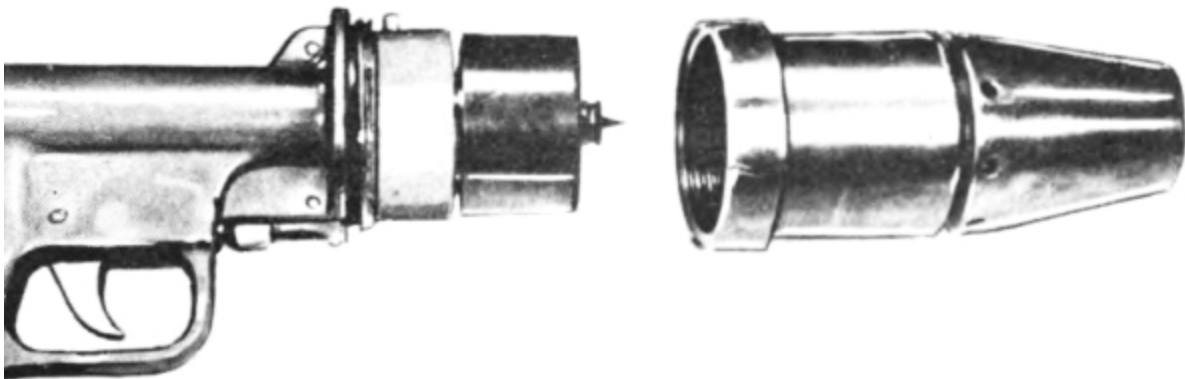

Fig 16. Ignition cylinder in place on gun before replacement of ignition shield.
- (3) Raise nozzle end of gun so cylinder slides down against the spring case of the ignition head. (Fig 16) If necessary, rotate cylinder so it slips down all the way. Do not force cylinder into place as forcing may prematurely ignite it.
- (4) Rotate spring case and ignition cylinder clockwise as far as they turn freely.
(5) Place ignition shield over cylinder. Engage the slot in the shield on the spring-case pin.